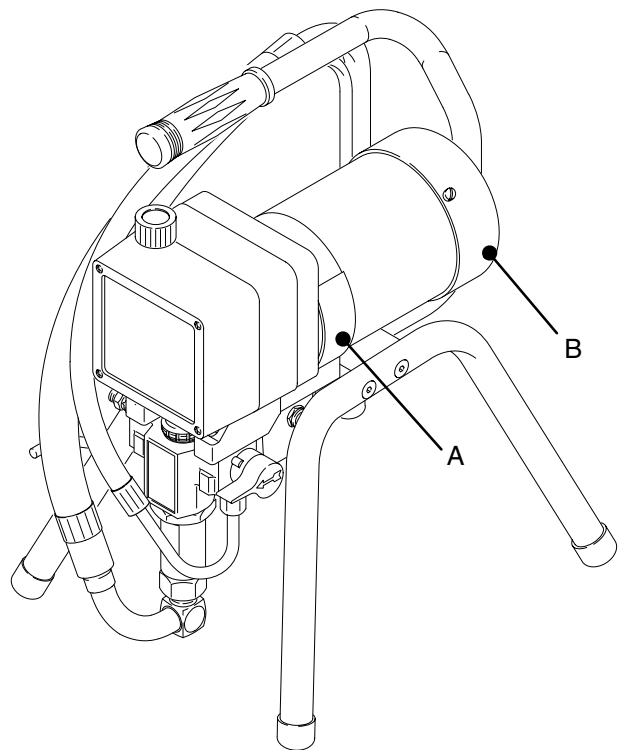

Fig. 12 Model 820-169 Shown
Remove the motor brush inspection covers (A). See Fig. 12.
Remove the fan cover (B). See Fig. 12.